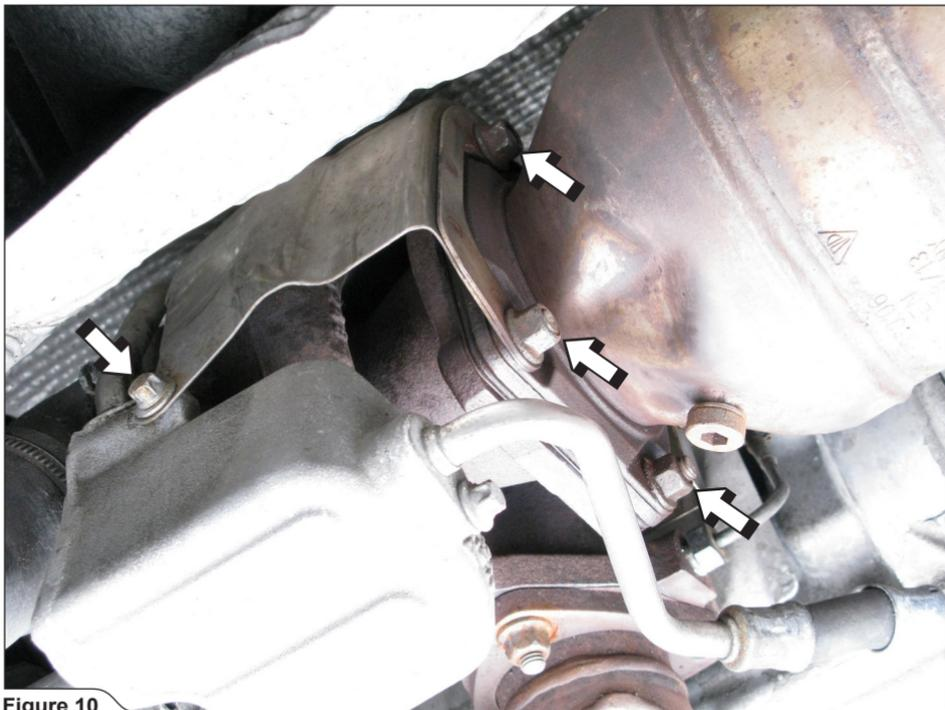

Figure 10
7. **For Slip-On and Slip-On with optional Link Pipes:** unscrew all nuts of the stock link pipes flanges and the M6 bolts of turbo chargers' heatshield on both sides of the engine (**Figure 10**).